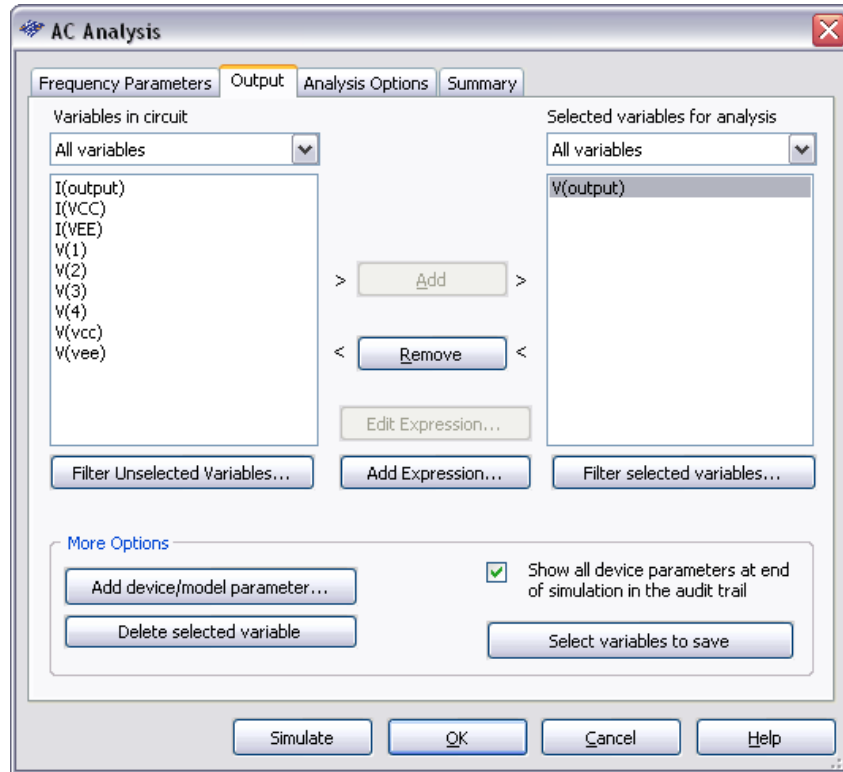

Figure E2-14. AC Analysis Output Tab
3. Select the Output tab and set up the SPICE simulation to perform an AC Analysis at the output of the band-pass filter (as seen in Figure E2-14)